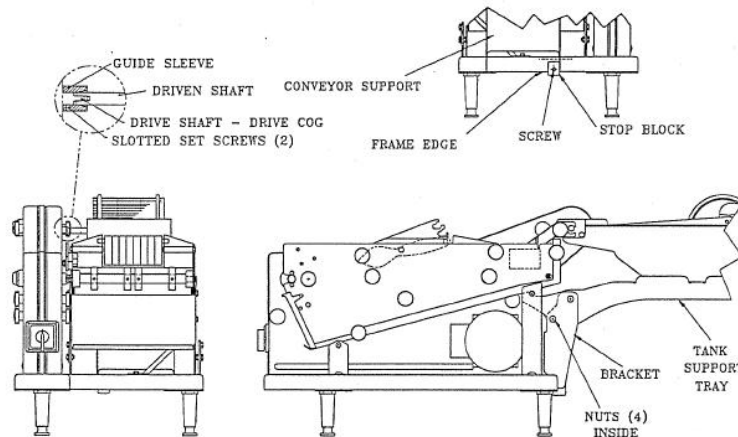

Figure 15
4. Loosen the (4) nuts holding the tank support tray in place.
5. Check to see if the guide sleeve slides freely over the joint. If not, repeat #4 above. When it does slide freely, tighten the (4) nuts then continue with the following adjustments.
8. Slide the stop block against the conveyor support as shown in **Figure 15** and retighten the stop block screw.